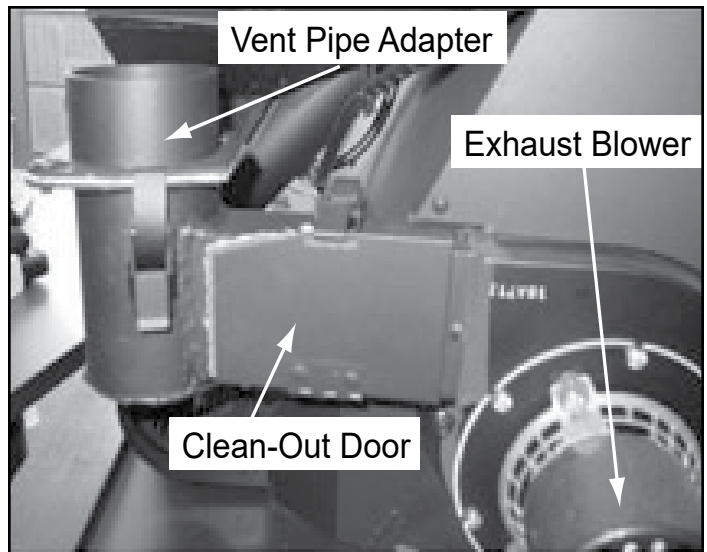

Figure 22.3
- d. Clean the exhaust blower blades while the access cover on the left side is still removed (**Figure 22.3** and **Figure 23.4**).